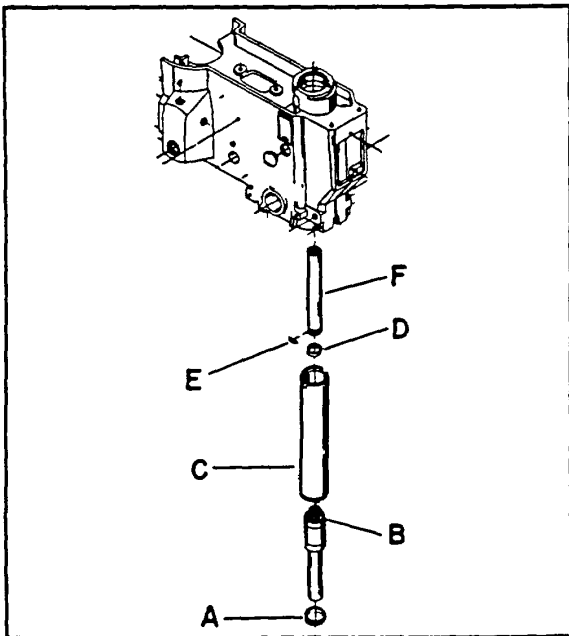

Fig. 7
3. Using a spanner wrench remove bearing closure nut (A), and pull lower spindle (B) out of quill (C) Fig. 7.
4. Remove garter spring (D), and key (E), Fig. 7. Disengage sleeve (F) from spindle.